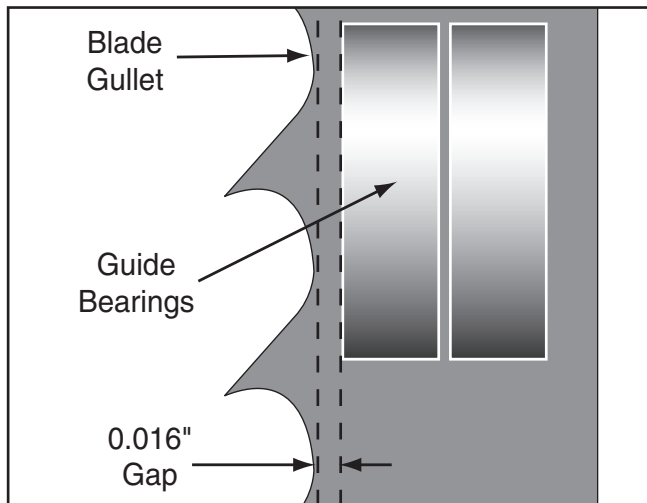

Figure 54. Lateral adjustment of blade guides.
- Loosen the lateral rod cap screw and slide the guide block to position the blade guides approximately 0.016" behind the blade gullets, as illustrated in **Figure 54**.